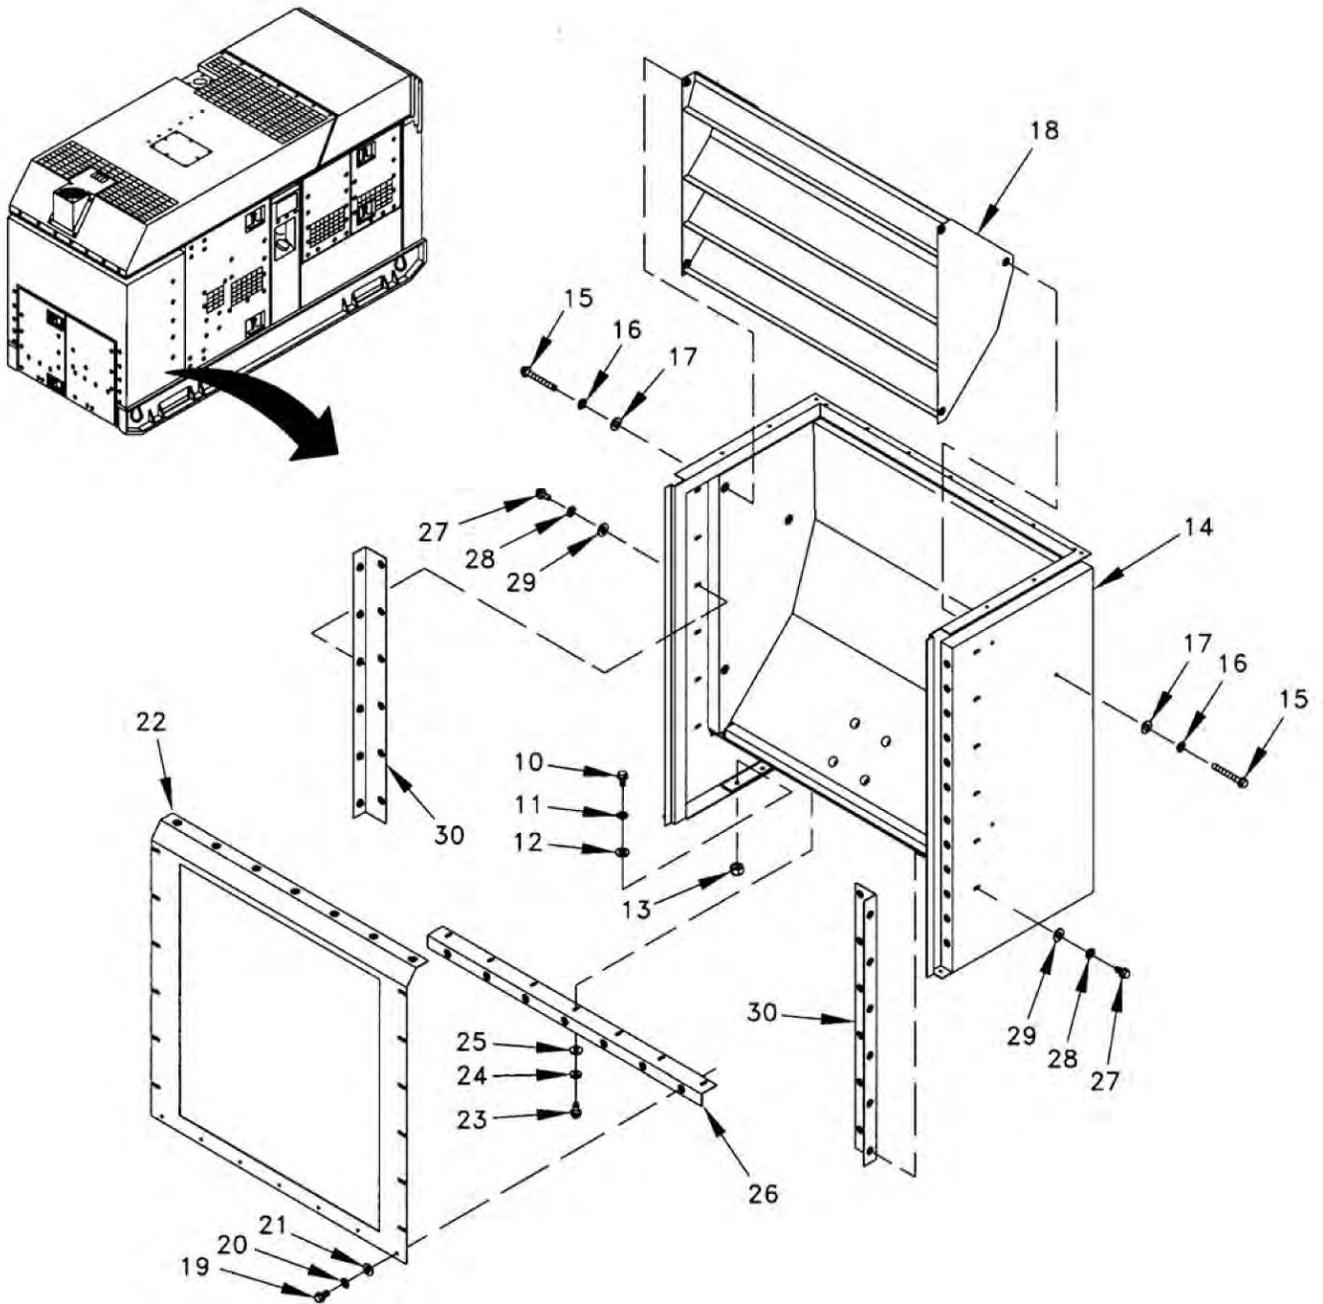

Figure 1. Front Section Housing Assembly (Sheet 2 of 2).
2. Remove six screws (Figure 1, Sheet 2, Item 10), lock washers (Figure 1, Sheet 2, Item 11), washers (Figure 1, Sheet 2, Item 12), nuts (Figure 1, Sheet 2, Item 13) and front section housing assembly (Figure 1, Sheet 2, Item 14).